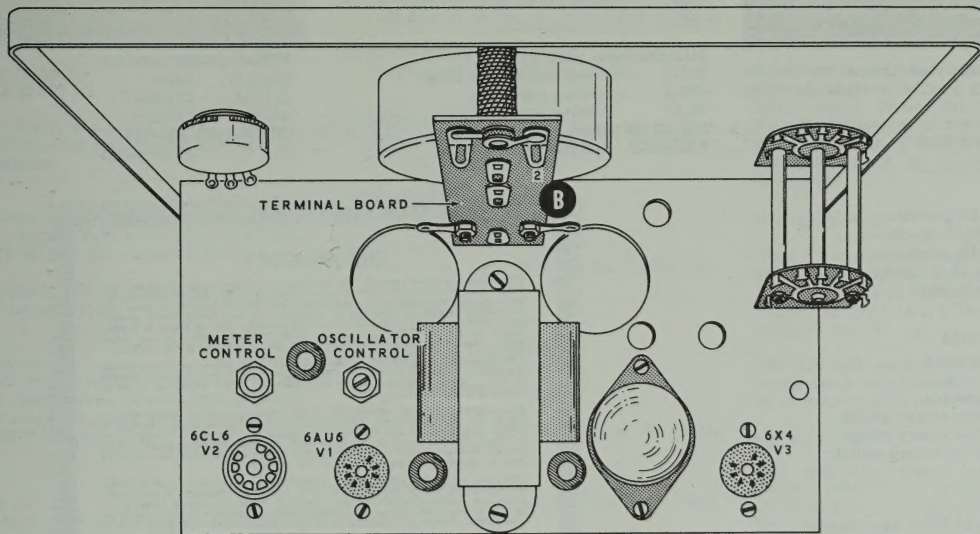

Figure 1
- () Locate the Meter control on top of the Generator chassis. See Figure 1 on Page 5. Adjust this control so the AC voltmeter and the Generator meter read the same.
- () Connect a 9" length of insulated wire between the red (top) output binding post and lug 2 (brown wire) of the pilot lamp socket on terminal board B. See Figure 1.
2. Check the tubes with a tube tester or by substitution. Refer to Figure 1 for the tube locations.